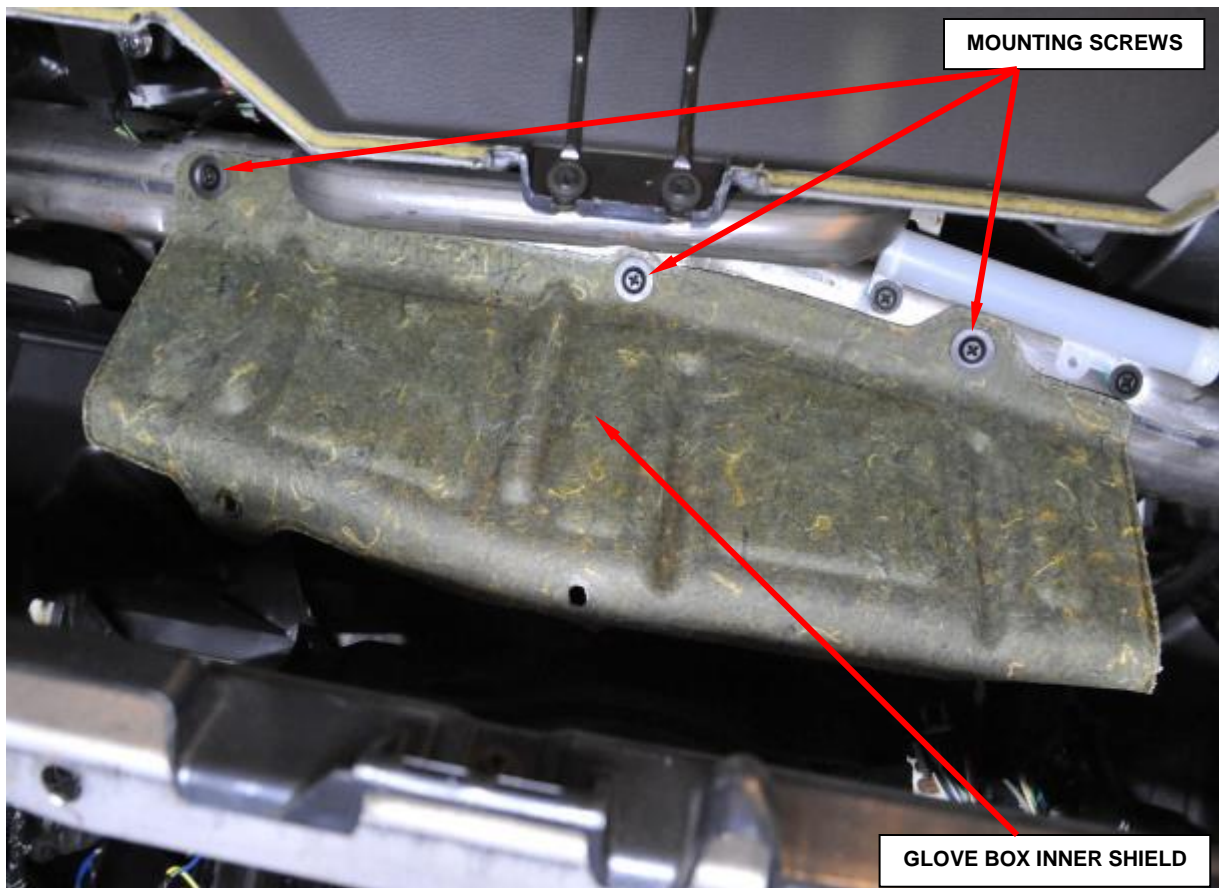

Figure 33 – Inner Glove Box Shield
4. Remove and save the three mounting screws to the inner glove box shield, if equipped (Figure 33).